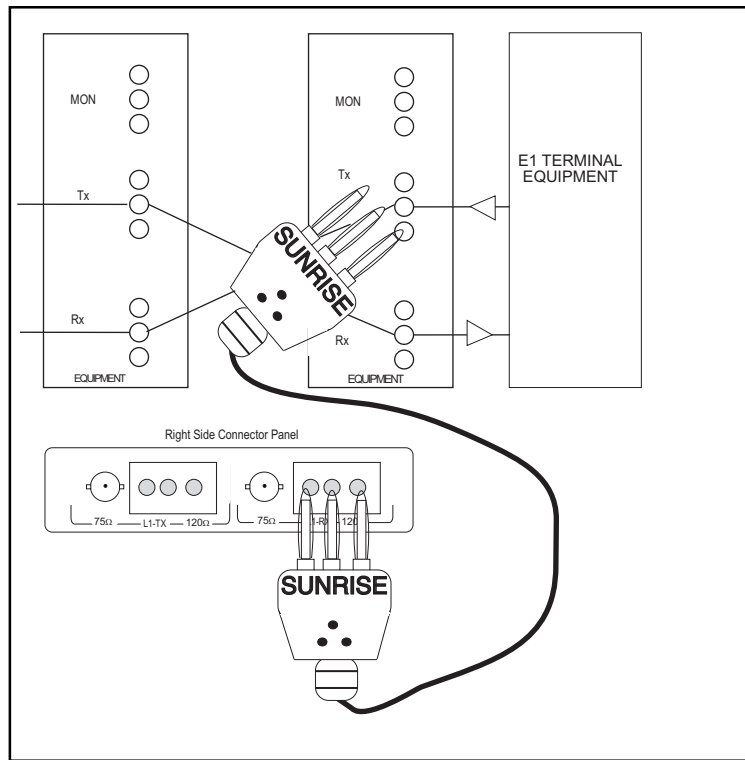

Figure 106 Measuring Signal Level
3) Plug the set into the circuit as shown in Figure 106.